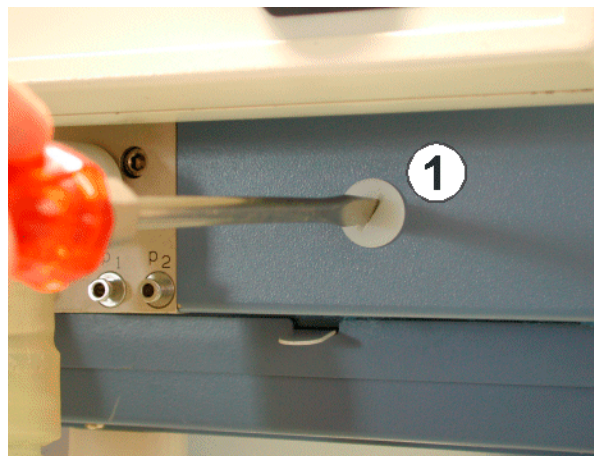

Figure 3 Protective cover
2. Loosen screw (Figure 3/1) with an appropriate screwdriver and remove the protective cover.
5. Replace the protective cover on the machine, and tighten the screw (Figure 3/1) with an appropriate screwdriver.